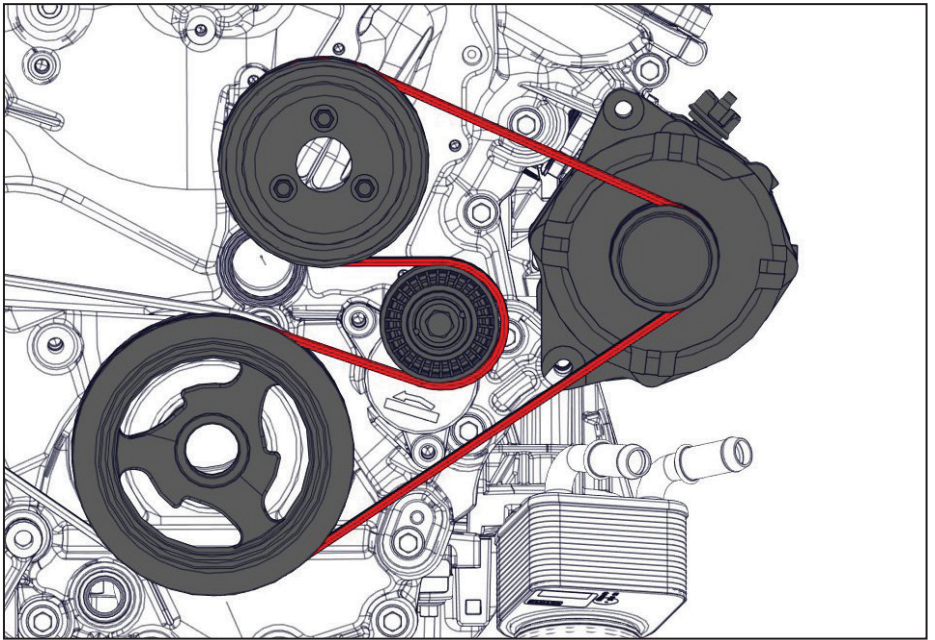

Figure 17 — 6 rib belt routing
- Reinstall and tension the OEM 6 rib belt (Figure 17).